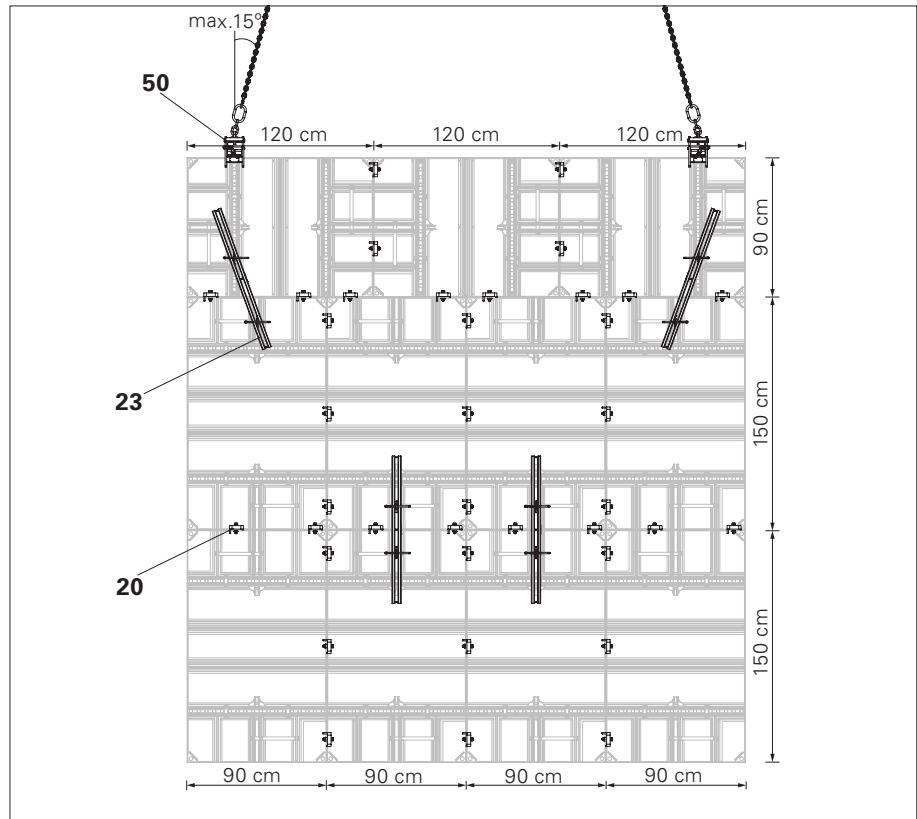

Fig. B6.01
Shown Height = 390 cm (Fig. B6.01)
Connect panels by means of Wedge Clip HSA (20) and Compensation Waler HSA 95 (23). (Fig. B6.01)